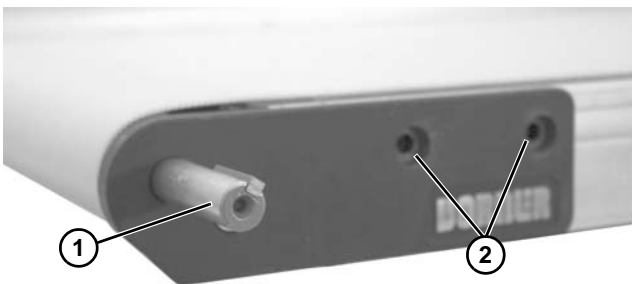

Figure 7
- Locate drive output shaft (Figure 7, item 1) and remove two (2) screws (Figure 7, item 2).